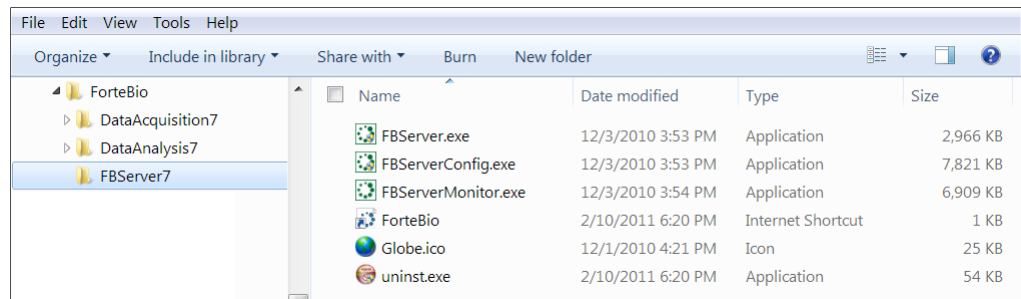

Figure B-30: Installation Location
- **ForteBio GxP Server module on network location**—Double-click the **FBServerConfig.exe** file in the FBServer folder from the installed location (Figure B-30).